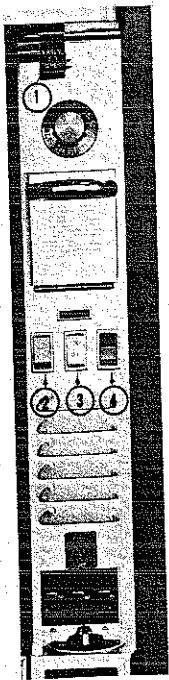

FIG. 8
1. The blower is directly connected to a 3/4 H.P. motor which is operated by the On-Off switch on the control panel marked BLOWER. (Figure 8, No. 2)
3. The Man-Auto switch on the control panel marked COOL DOWN (Figure 8, No. 4) should normally be in the Auto position to allow proper automatic operation of the blower. However, with the doors open the blower may be operated by placing COOL DOWN switch to Man position. This feature allows rapid lowering of temperature in the oven.
Venting tab (Figure 8, No. 1) on control panel keeps steam in when you want moist heat . . . but permits you to let it out for dry heat.